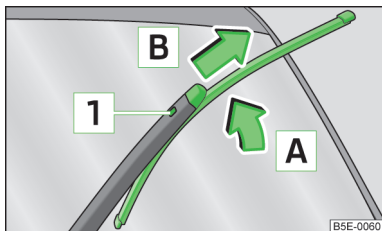

Fig. 206
- Raise the windscreen wiper arm away from the windscreen » Fig. 206.